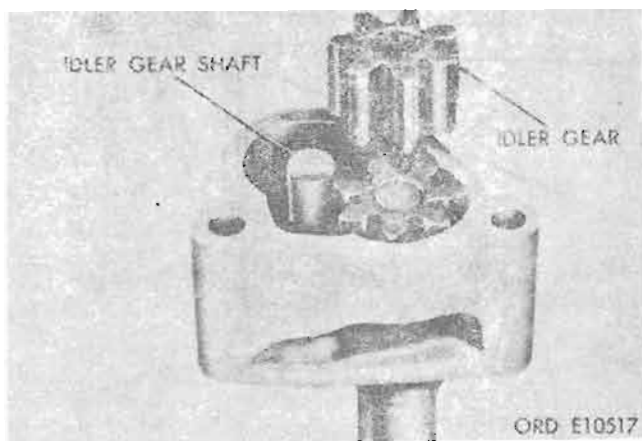

Figure 4-188. Oil pump gear to shaft—running clearance.
(3) *Running clearance.* Check the clearance between inside diameter of idler gear and outside diameter of idler gear shaft with micrometer. Clearance should not exceed 0.003 inch (fig. 4-188).
e. Remove Pump Shaft and Gear Assembly. Lift out oil pump idler gear from pump body (fig. 4-188). Press shaft and gear assembly out of oil pump drive gear with arbor press and suitable adapter. Lift oil pump drive gear from oil pump body (fig. 4-189).